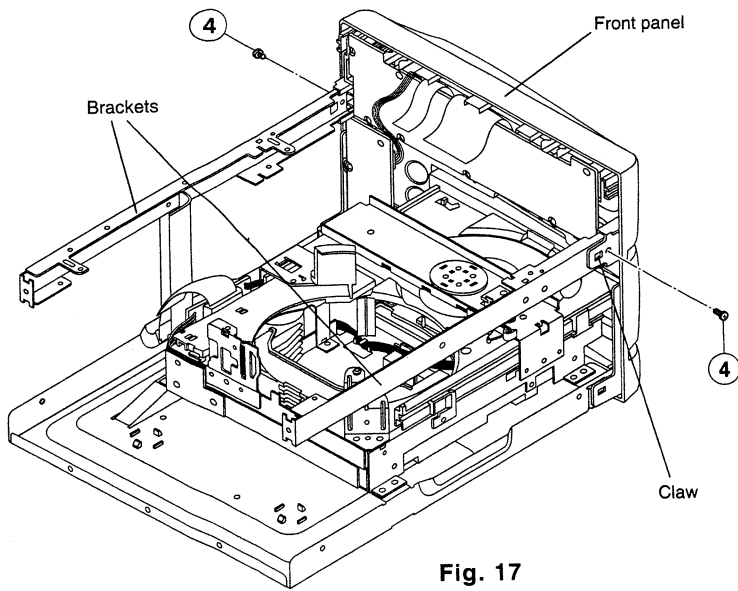

Fig. 17
- (1) Release 2 connectors ④ and 4 connectors ⑤.
- (2) Remove 4 screws ⑥ from the left and right brackets.
4. Removal of Left and Right Brackets (Fig. 17)